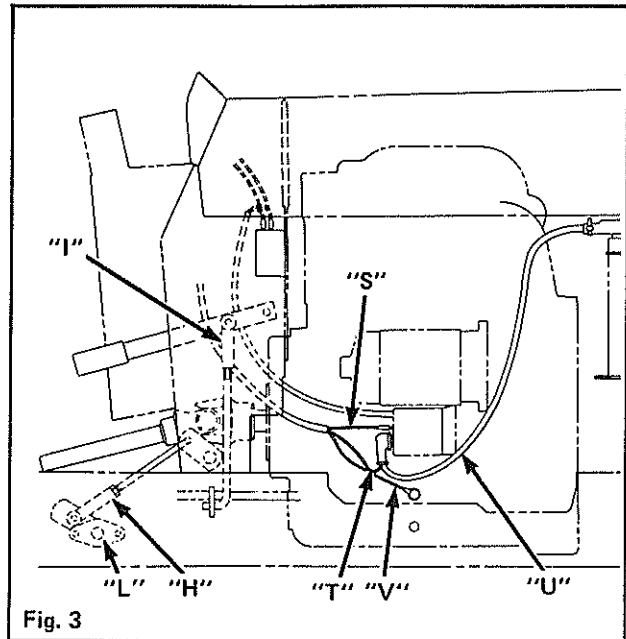
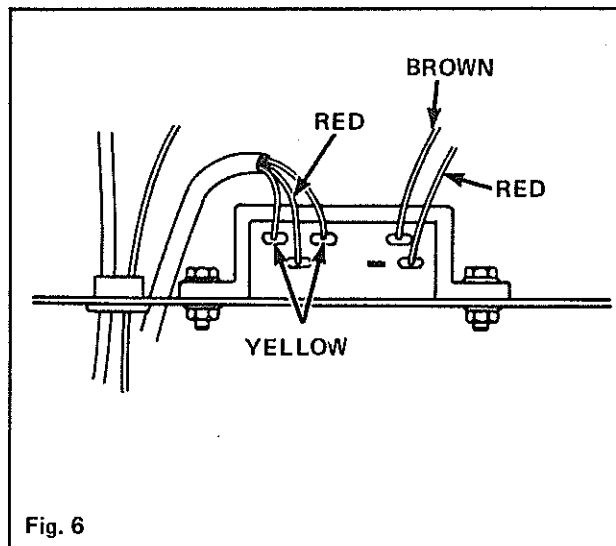

Fig. 3
Fig. 6
16. The (4) engine cradle mounting screws.
18. Brake rod (H) Fig. 3 from center shaft.
19. PTO rod (I) Fig. 3 inside instrument panel.
1. Position engine with drive shaft into frame. Make sure drive shaft is over center cross shaft (L) Fig. 3 of frame.
7. Reconnect hydro control rod to hydro arm, brake rod (H) Fig. 3 to center cross shaft and PTO rod (I) to PTO hand control.
- B. Gray wire from wiring harness to engine oil pressure switch (Q) L.H. side.
- C. Yellow with red stripe from harness to fuel solenoid (R) L.H. side.
- D. Red with yellow stripe to back of starter solenoid (S) Fig. 3 R.H. side.
- E. Red wire (T) of harness and positive red wire of battery (U) to screw terminal on starter.
- F. Secure black lead (V) of harness to R.H. engine cradle with (2) star washers and screw.
- G. Two yellow and one read lead of harness to regulator as shown in Fig. 6.
- H. Red and brown lead of harness to regulator as shown in Fig. 6.
26. Connect RED lead (V) Fig. 3 from starter to POSITIVE post.